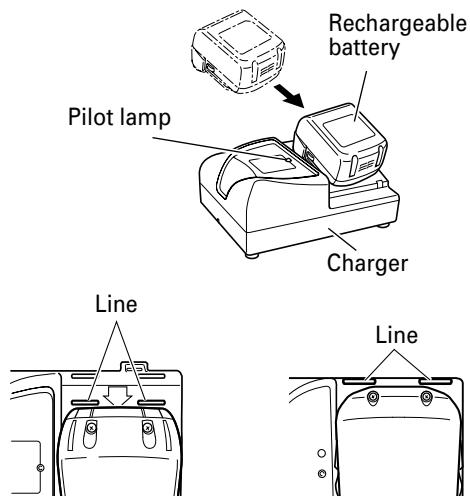

Fig. 4
2. Insert the battery into the charger. Firmly insert the battery into the charger until the line is visible, as shown in Fig. 4.